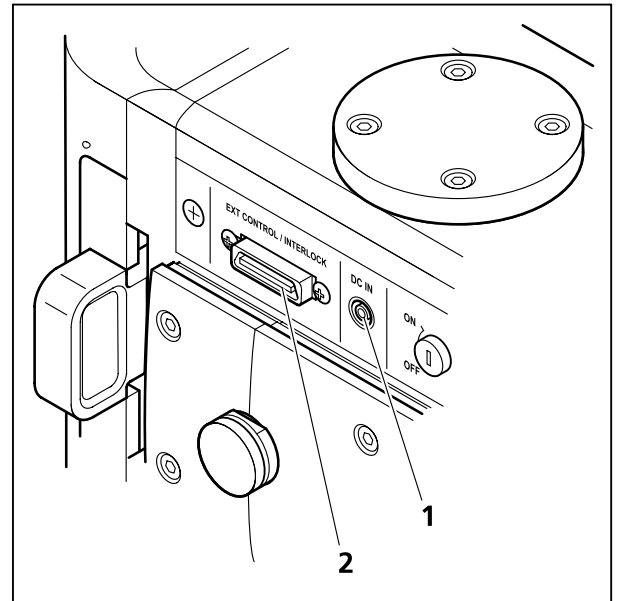

Fig. 3-6 Connection points of
- Connect the DC outlet of the power supply unit to jack **DC IN** (Fig. 3-6/1).
- Plug the interlock connector into terminal jack **Ext. Control / Interlock** (Fig. 3-6/2). The shutter can now be manually opened and closed by pressing the **Shutter** button (Fig. 4-1/1).
- Connect DC outlet of the table power pack to jack **DC IN** (Fig. 3-6/1).
- Plug the CSU-X1 control box cable into jack terminal **Ext. Control / Interlock** (Fig. 3-6/2).